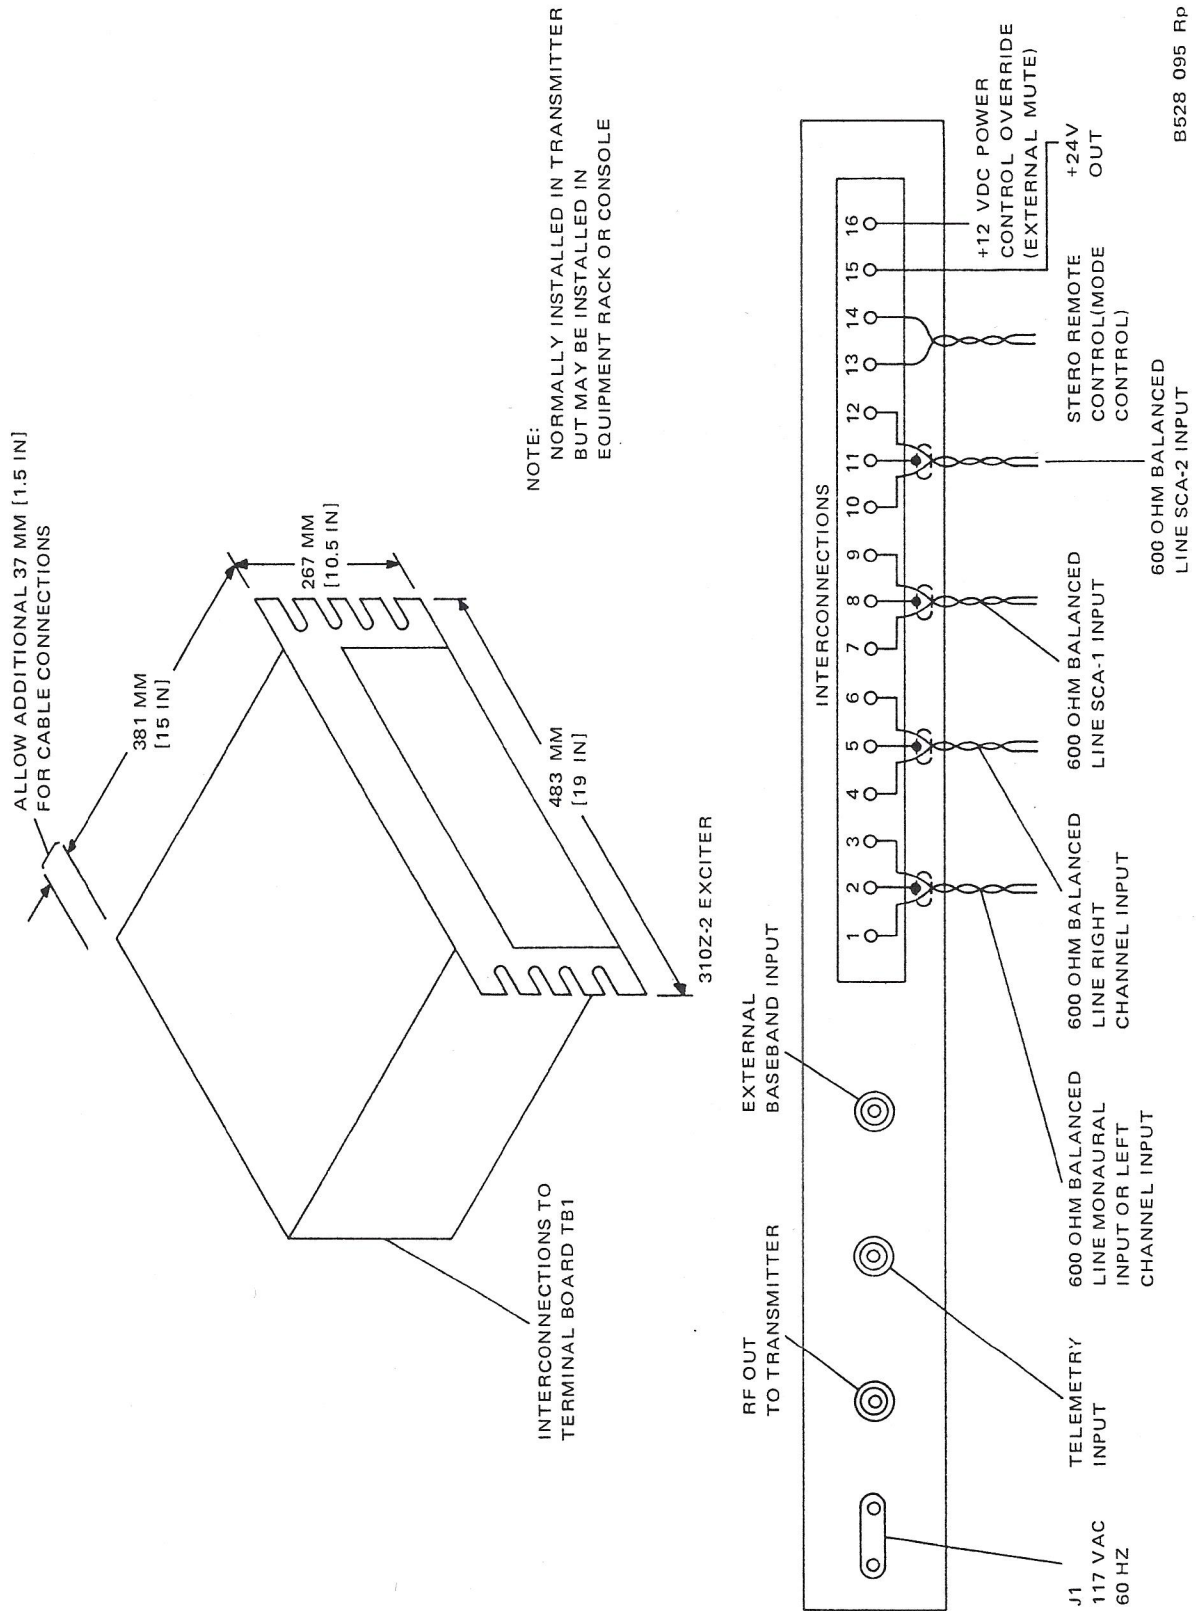

Figure 2-1. 310Z-2 FM Exciter, Outline Dimensions and Installation Details.
Use only balanced 600-ohm audio inputs to the 310Z-2. Use only twisted, shielded pairs for input cables. (See figure 2-1.)
- a. Monaural Inputs - Connect the monaural audio input line to TB1-1 and TB1-3. Connect the cable shield to TB1-2. (See figure 2-1.)
- b. Stereophonic Inputs - Connect the left channel audio input line to TB1-1 and TB1-3. (See figure 2-1.) Connect the cable shield to TB1-2. Connect the right channel audio input line to TB1-4 and TB1-6. Connect the cable shield to TB1-5. Be sure that the 786V-1 Stereo Generator is plugged into the 310Z-2.